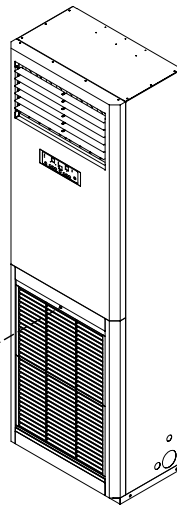

Figure 4
- 5.1 Remove a screw at return air grille (Figure 4).